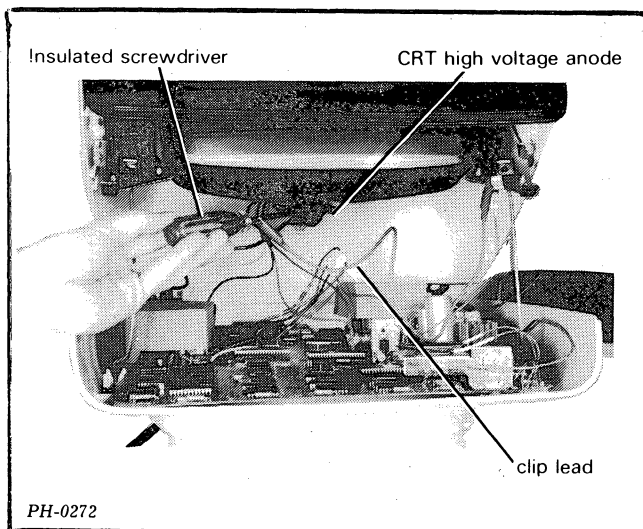

Figure 8.12 Discharging the CRT
**WARNING:** Never touch the CRT high voltage anode or the connecting wire without first discharging the CRT since high voltage is present even with the power off (see figure 8.12).
5. DISCHARGE THE HIGH VOLTAGE IN THE CRT as follows (see figure 8.12):